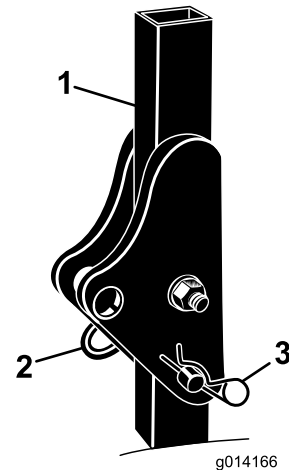

Figure 3
1. Remove the hairpin cotter pins and the pins from the roll bar (Figure 3).
2. Raise the roll bar to the upright position and install the two pins and secure them with the hairpin cotter pins (Figure 3).